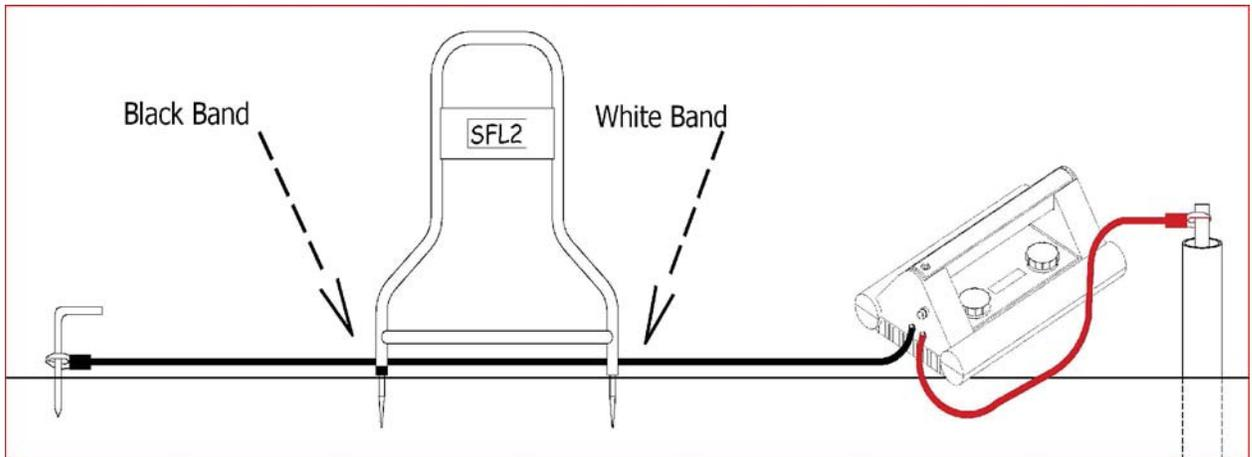

Figure 3-5: Positioning of A-Frame Receiver for Synchronization
- 1 Hold the A-Frame Receiver so the spike with the black band is about 2 steps away from the ground rod and the spike with the white band is in-line with the targeted cable. The A-frame receiver **must be placed** as shown in **figure 3-5** for synchronization and for unit to operate correctly. Push the A-Frame spikes into the ground. Switch the Receiver “ON” wait until arrow flashes.